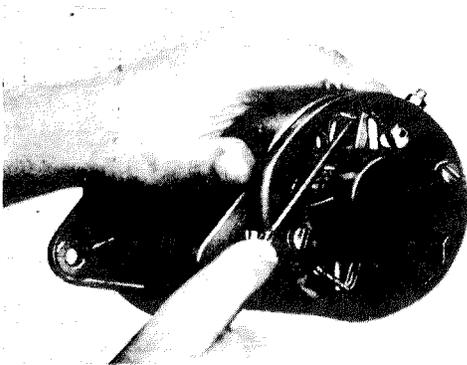

Fig. 15-13/1
2. Insert a suitable screw driver under the carbon brush below the connecting wire and carefully push the brush upward until it engages in the gap between the brush holder (Fig. 15-13/1) and the armature housing. In this position the brush spring presses the carbon brush into an oblique position.